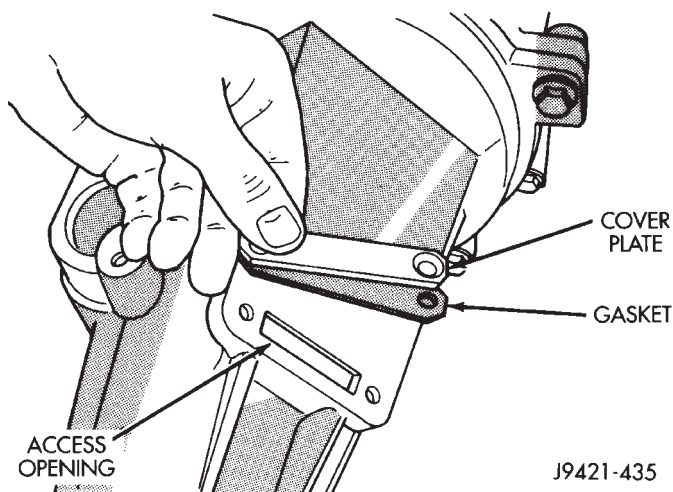
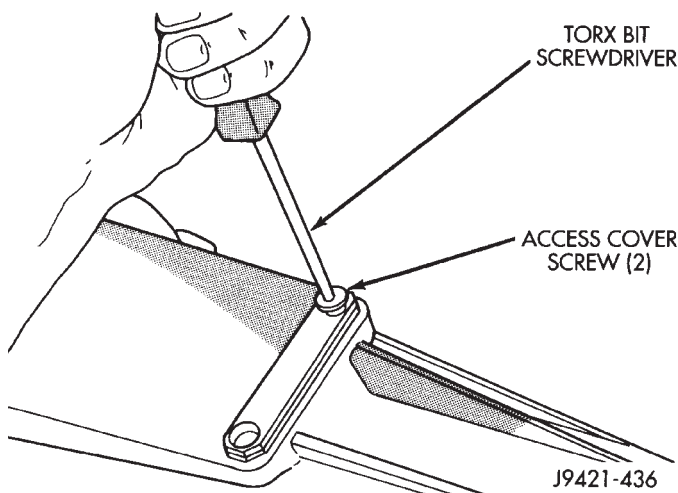

Fig. 71 Access Cover And Gasket Installation
Fig. 72 Installing Access Cover Screws
(30) Install access cover and gasket in rear extension (Fig. 71). Then install and tighten torx screws to 8–11 N·m (75–95 in. lbs.) (Fig. 72).